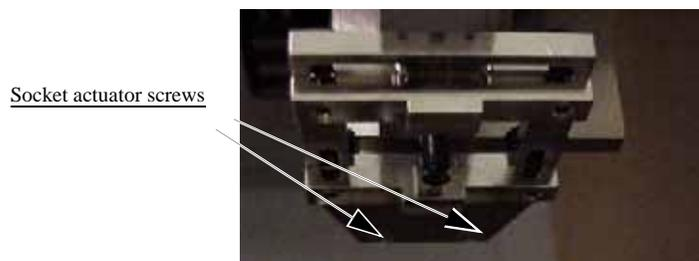

Figure 6-85—Location of two screws holding socket actuator
- 3a) Using a 3/32" Allen wrench, remove the two socket actuator screws indicated in *Figure 6-85*.